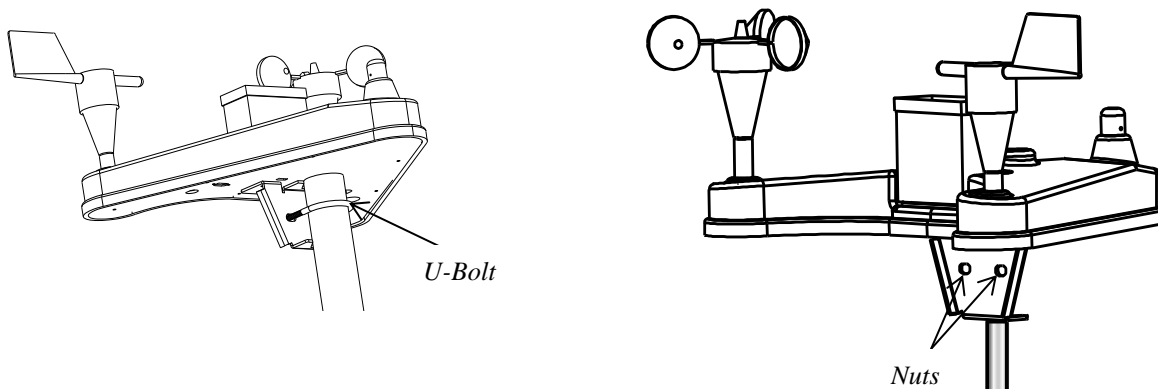

Figure 24: Two views of the WeatherHawk station. The U-bolt and nuts are shown.
- Loosely tighten the U-bolt nuts so that the WeatherHawk is stable but can be rotated on the mast or pole (Figure 24).